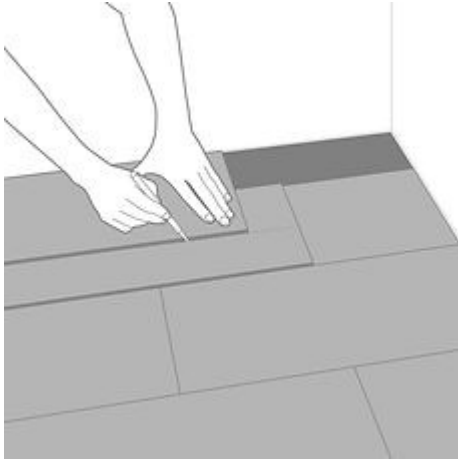

Figure 6
10. To fit the last row of panels you will usually need to narrow them. Do this as follows: lay a panel on top of the previous row with the groove towards the wall, lay another panel upside down up to the edge of the wall and mark the panel underneath. Cut the panel to size and fit the last row (**Fig 6**).